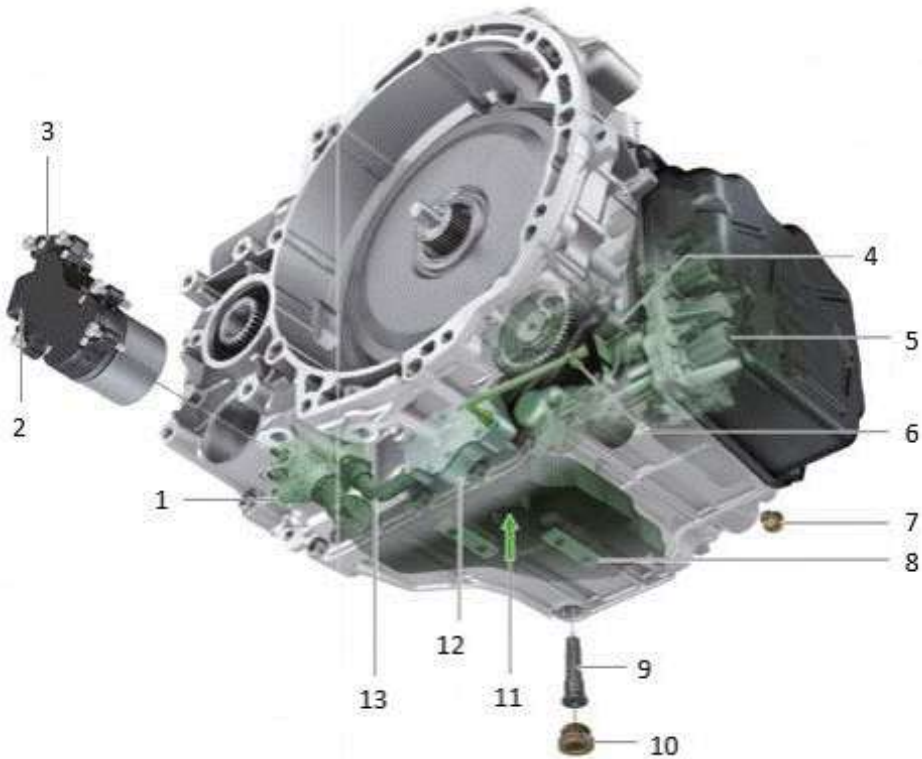

Figure 1. OGC Gearbox Components.
Component related issue of auxiliary hydraulic pump 1 (-V475-) for gear oil (Figure 1, item 1).
Legend for figure 1: